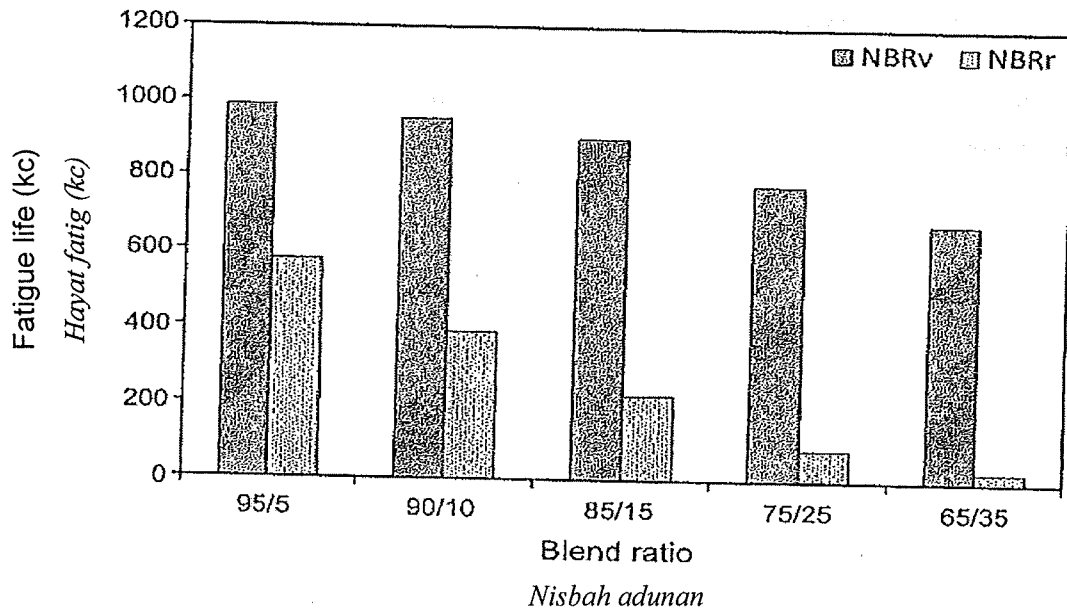

Figure 3 – The effect of NBRv and NBRr on the fatigue life of NR/NBRv and NR/NBRr blnds
- [b] Figure 3 shows the comparison of fatigue life versus blend ratio for NR/NBRv and NR/NBRr blends. Figure 4 shows scanning electron micrograph of tensile fracture surfaces of NR/NBRv and NR/NBRr blends.
Explain the results obtained in Figure 3 and Figure 4.